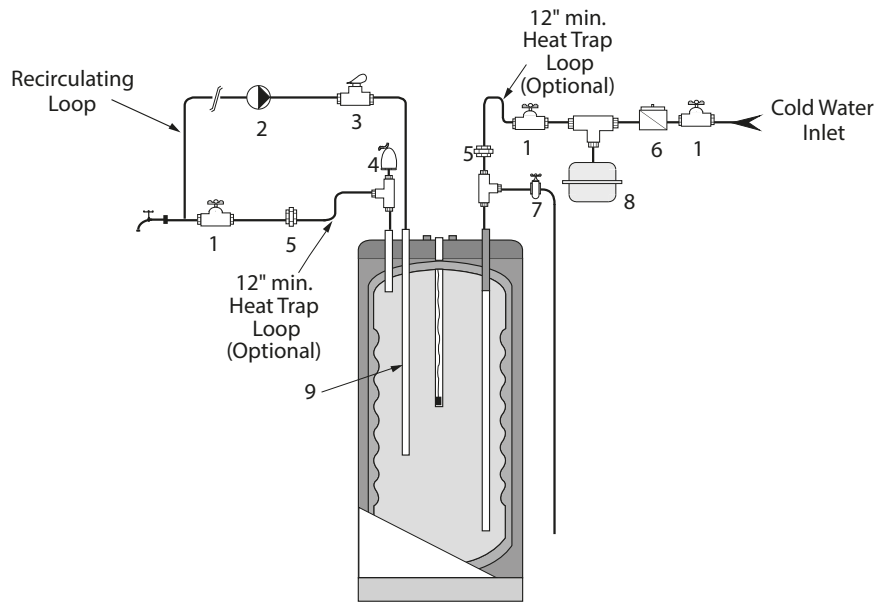
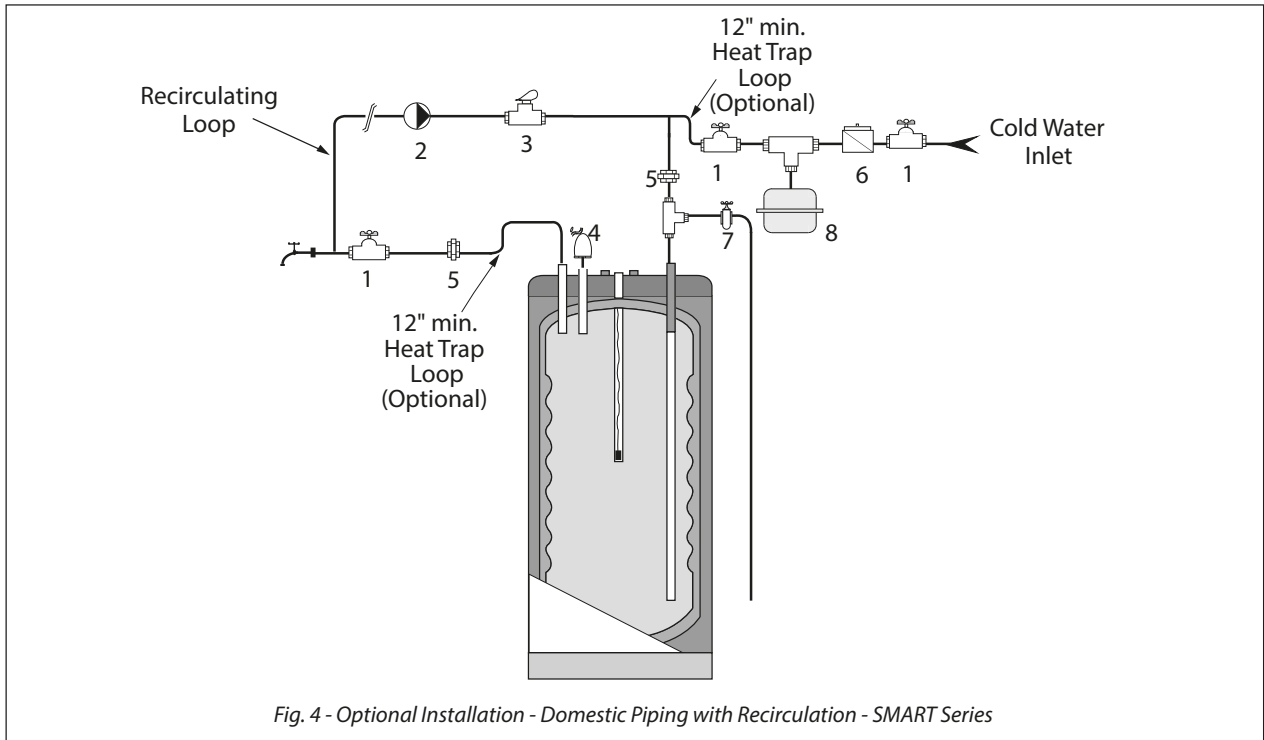

Fig. 3 - Standard Installation - Domestic Piping with Recirculation - SMART Series
Fig. 4 - Optional Installation - Domestic Piping with Recirculation - SMART Series
- Install a tee connection at the domestic cold water inlet (Refer to *Fig 3 & Fig. 3 on page 7, and Fig. 4 on page 8*).
- It is recommended that the recirculation dip tube be installed in auxiliary connection, as shown in *Fig. 3 on page 7*. See *Table 1* below for diameter and length of dip tube.